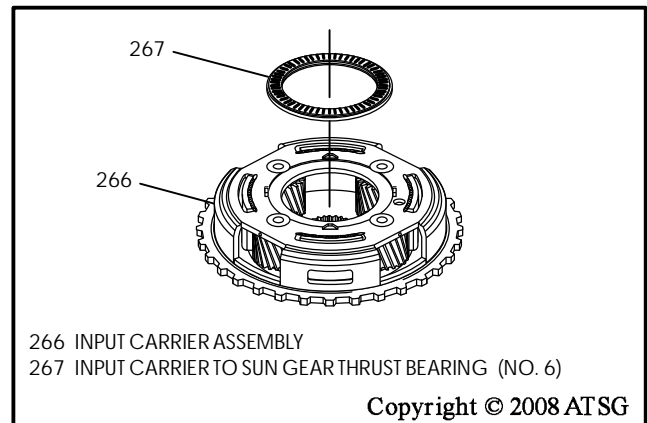

Figure 111
9. Install number 6 thrust bearing on input carrier, as shown in Figure 111, and retain with small amount of Trans-Jel®.